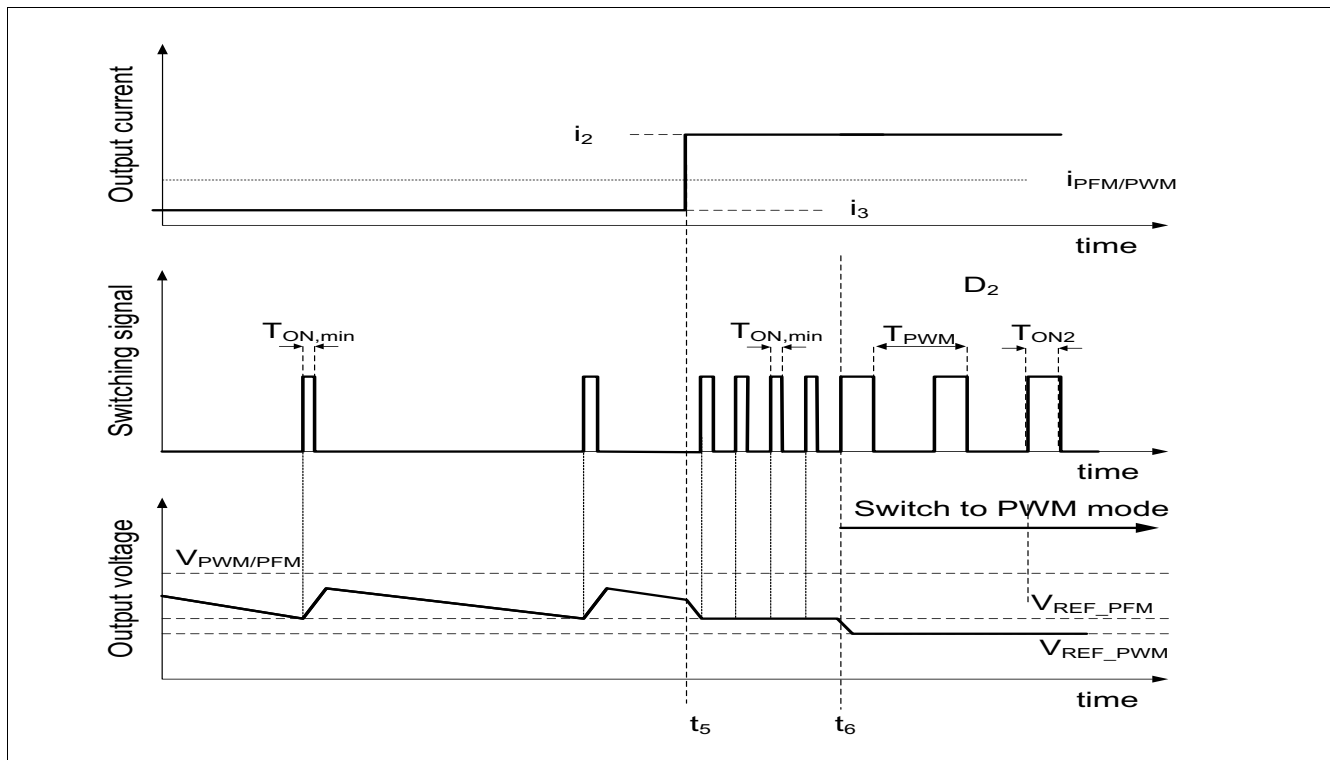

Figure 5 PFM to PWM transition (timing diagram)
**Figure 5** shows the transition from Pulse Frequency Modulation to Pulse Width Modulation under the assumption, that the input voltage  $V_S$  will be constant, and only the output current  $I_{CC}$  will vary. The diagram shows the principle, in reality the signals might look slightly different. The diagram is without scale in respect of time, voltage and current values.